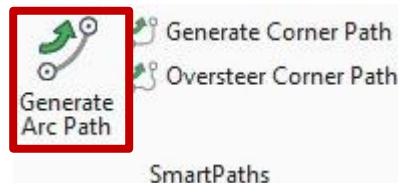

Figure 29 – Generate Arc Path
1. Select Generate Arc Path in the SmartPaths Toolbox (**Figure 29**).